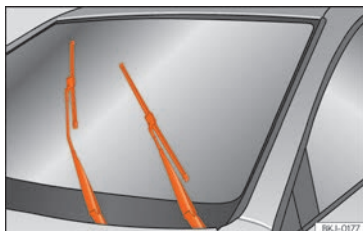

Fig. 82 Wipers in service position.
- Turn the ignition on and off and then (within approximately 9 seconds) push the windscreen wiper lever down (short wipe). The windscreen wipers will move to the service position »» **Fig. 82.**